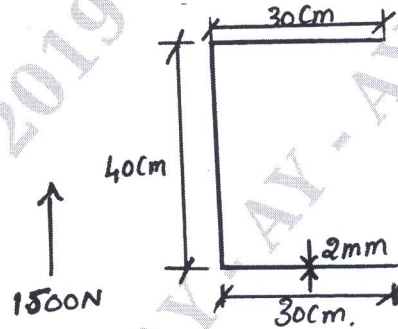

Fig Q6(a)
- 6 a. Evaluate the distribution of shear flow for a thin walled C-channel shown in Fig. Q6(a).